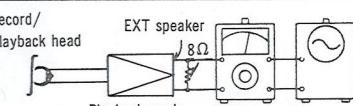

Fig. 1
Head azimuth adjustment Condition: * Playback mode Equipment: * VTVM      * Oscilloscope * Test tape (azimuth) ... QZZCFM * Resistor (8Ω)	<p>1. Test equipment connection is shown in fig. 1. 2. Playback azimuth tape (QZZCFM 8kHz). 3. Adjust record/playback head angle adjustment screw (A) in fig. 2 so that output level becomes maximum. 4. After adjustment lock head adjustment screw with lacquer.</p>